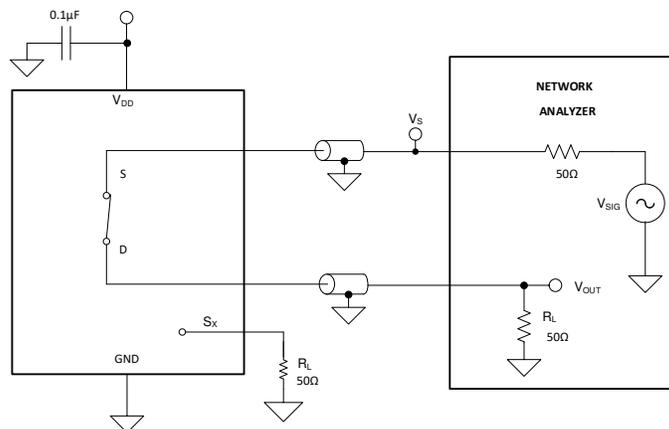

图 8-10. Bandwidth Measurement Setup
Bandwidth is defined as the range of frequencies that are attenuated by less than 3 dB when the input is applied to the source pin (Sx) of an on-channel, and the output is measured at the drain pin (D) of the device. 图 8-10 shows the setup used to measure bandwidth.